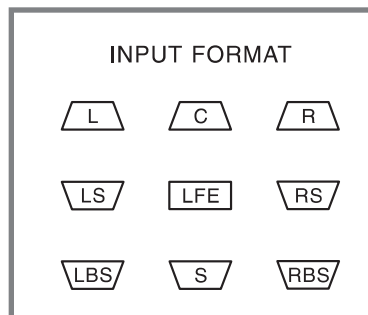

Figure 57
A. If the input signal source is Eight Channel, the front panel INPUT FORMAT LEDs L, C, R, RS, RBS, LBS, LS and LFE will illuminate. Refer to figure 57.